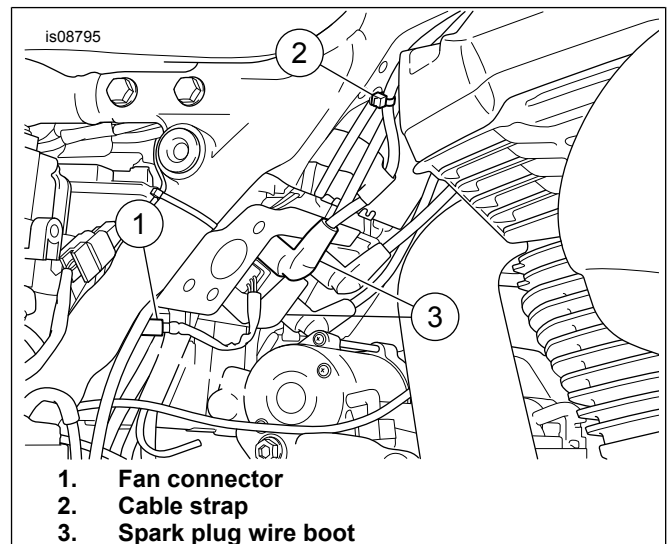

Figure 1. Fan Connector
7. See Figure 1. Locate fan connector (1) and unplug.
- *When repositioned, right spark plug wire boots (3) on coil pack should be facing toward left side of vehicle.*
- *See Table 1. There are holes in frame to support the use of Christmas tree cable straps (12) to help properly route a wire harness or secure spark plug wires.*
- *When routing spark plug wires (2) make sure there is enough clearance between the frame and engine assembly.*
See Figure 1. Reposition right side spark plug wire boots.